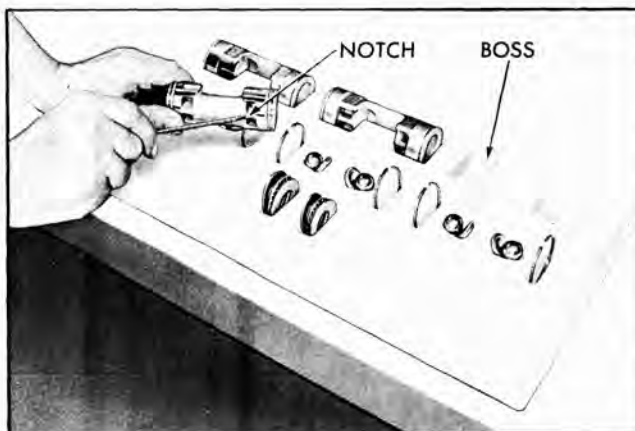
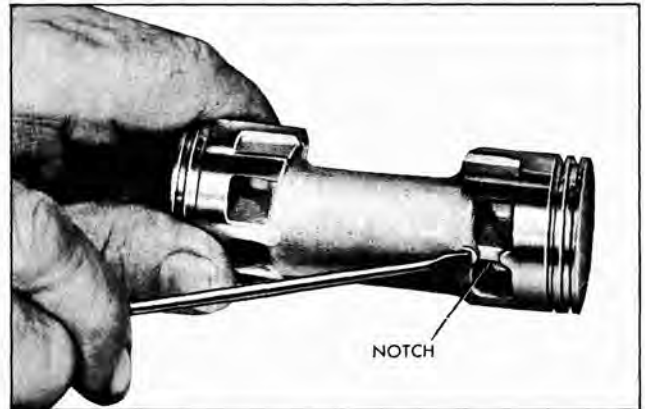

Fig. 5-75 Compressor Parts in Tray
Fig. 5-76 Identification of Front End of Piston
6. Push on compressor shaft and carefully remove pistons, piston rings, shoes and balls; one assembly at a time. Place parts in the J-9402 tray to keep parts together (Fig. 5-75). The front end of the piston has an identifying notch in the casting web (Fig. 5-76).